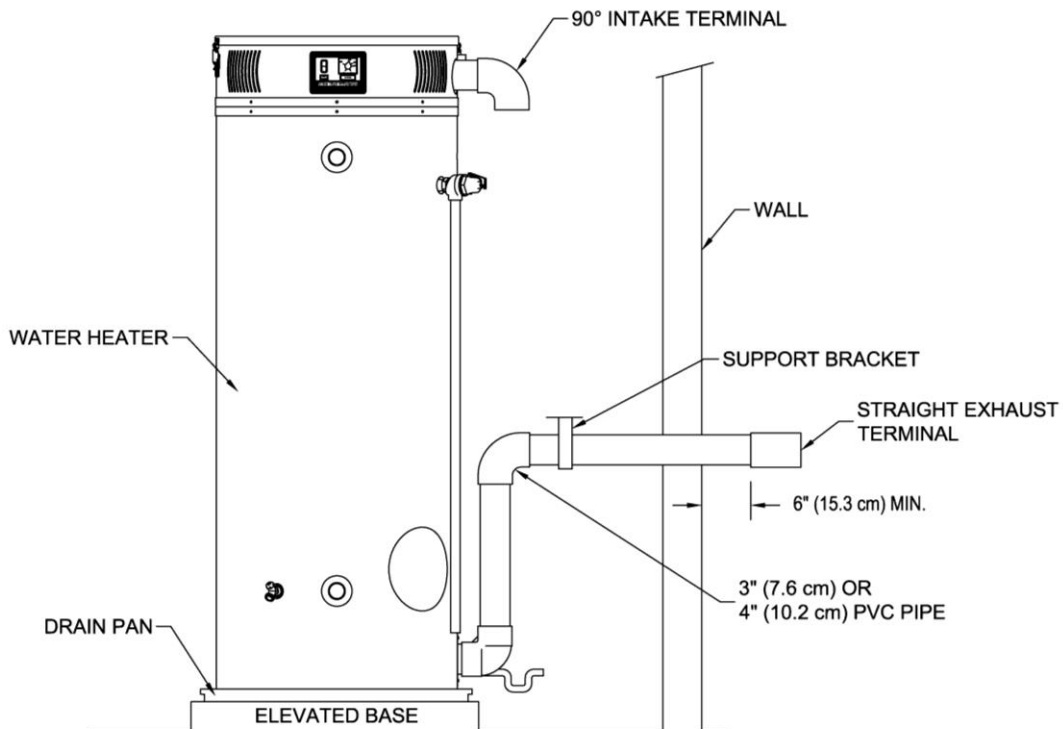
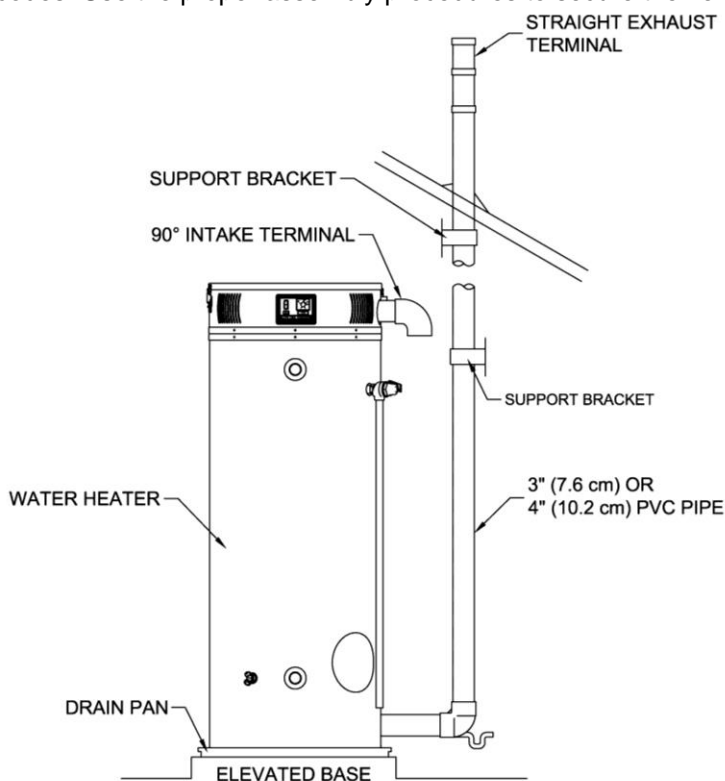

Figure 15. Typical Horizontal Power Vent System
Figure 16. Typical Vertical Power Vent System Installation
2. Install the exhaust vent and air intake vent pipes as shown in Figure 16. Make sure that the installation meets national and/or local codes. The distance between the back edge of the exhaust vent terminal and the exterior wall (see Figure 15) must be 6 inches (13.0 cm). Use the proper assembly procedures to secure the vent connector joints.
2. Install the exhaust vent and air intake plastic pipes as shown in Figure 16. Make sure that the installation meets national and/or local codes. Use the proper assembly procedures to secure the vent connector joints.
If assembly is too short to meet height requirements, the 2-pipe supplied in the kit may be replaced by using the same diameter pipe. DO NOT extend the overall dimension by more than 60 in. (see Fig. 16).